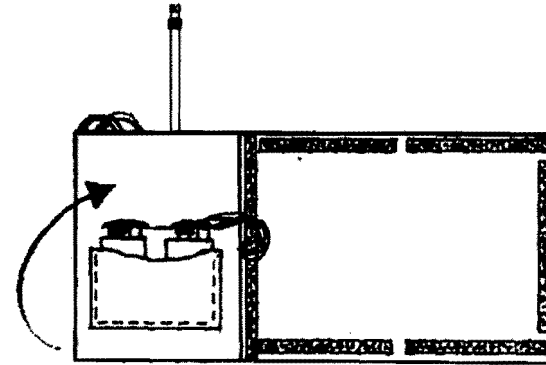

Figure 3
8. The battery holder is now accessible. Install batteries ,(using new *DURACELL batteries) place them in battery holder. (Figure 3)